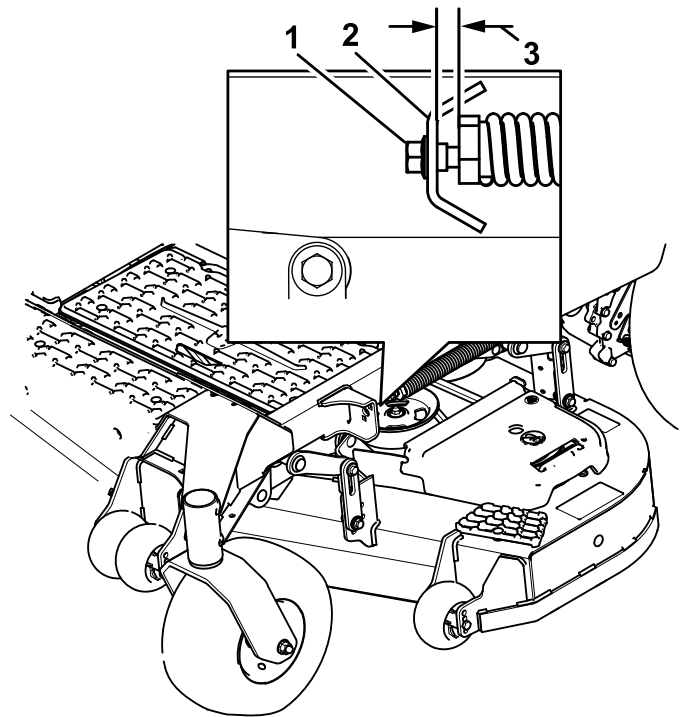

Figure 106
10. Slowly loosen the adjusting screw on the lift-assist spring until you can remove the screw (Figure 106).